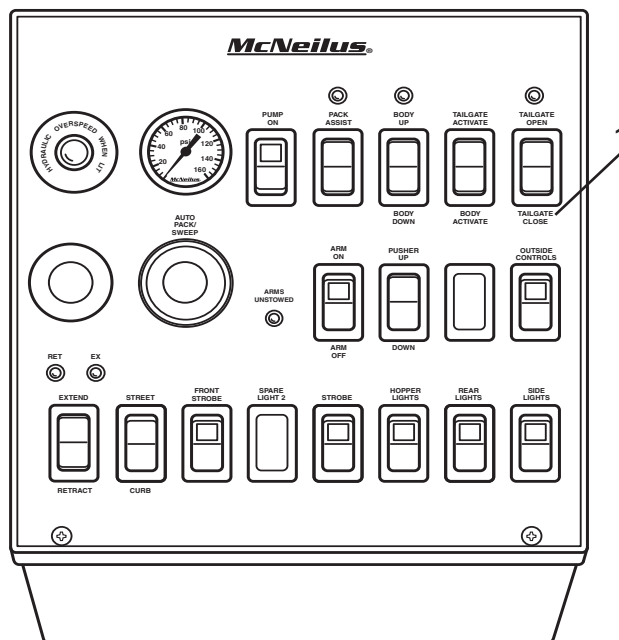

Figure 28
5. Using the in-cab keypad, lower the tailgate until it is closed (Figure 28, Item 1).